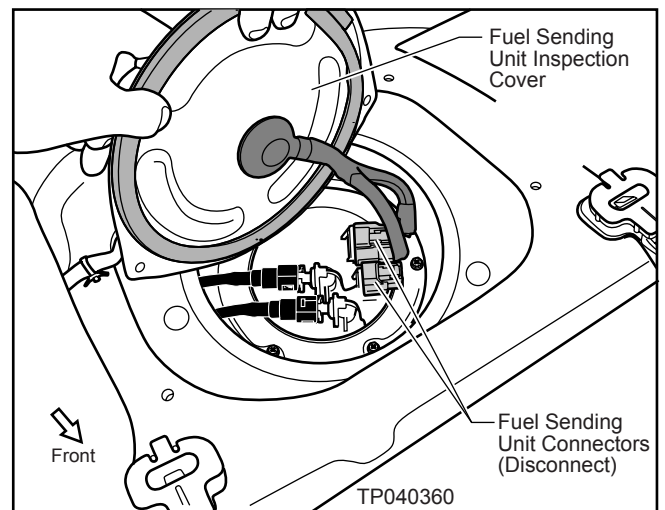

Figure 26
4. Disconnect the Fuel Sending Unit Connectors (see Figure 26).